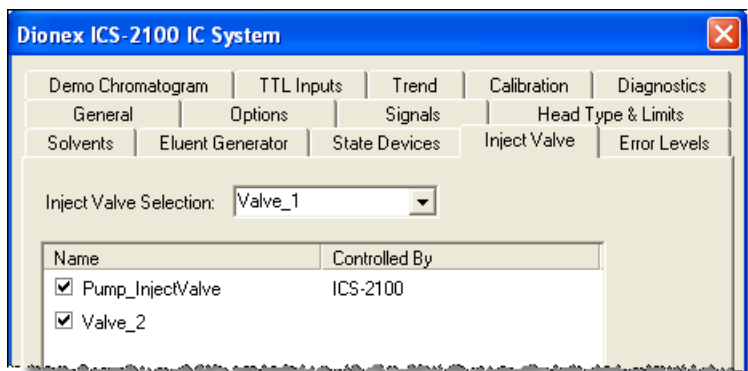

Figure 21. Inject Valve Properties: Inject Valve Controlled by the IC System
- If the timebase will include another model of autosampler (or no autosampler), the **Controlled By** setting must be **ICS-1100** (see Figure 21).